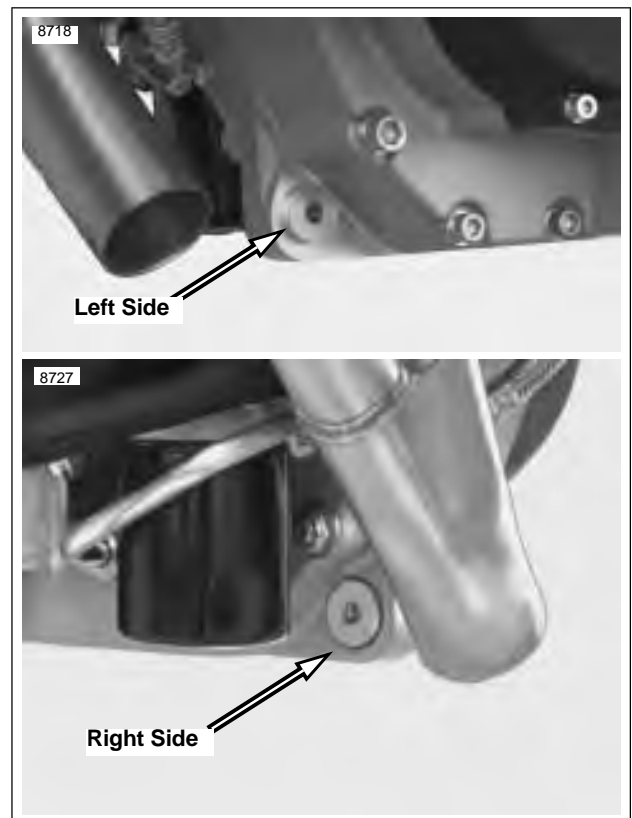

**Figure 3-35. Center Tie Bar Mount**
- b. See Figure 3-35. Center tie bar mount 25-27 ft-lbs (33.9-36.6 Nm).